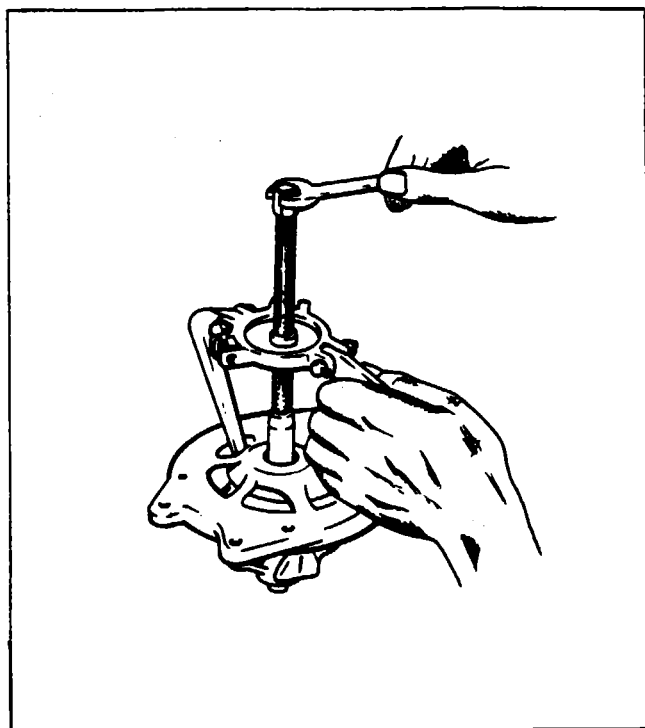
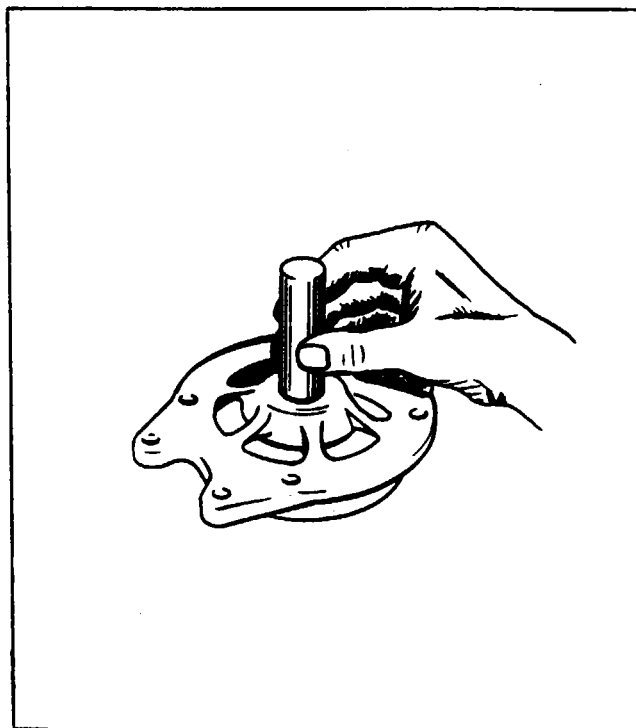

Figure 11-38. Removal of Drive End Head
Figure 11-39. Removal of End Head Bearing
f. To remove the drive end head from the rotor shaft, use a puller that grips on the bearing retainer plate as shown in Figure 11-38. Do not attempt to remove by supporting the end head and pressing on the shaft, as this may result in distortion of the end head or stripping of the retainer plate screws. Remove the three retainer plate screws and press the bearing out of the end head. (Refer to Figure 11-39.)